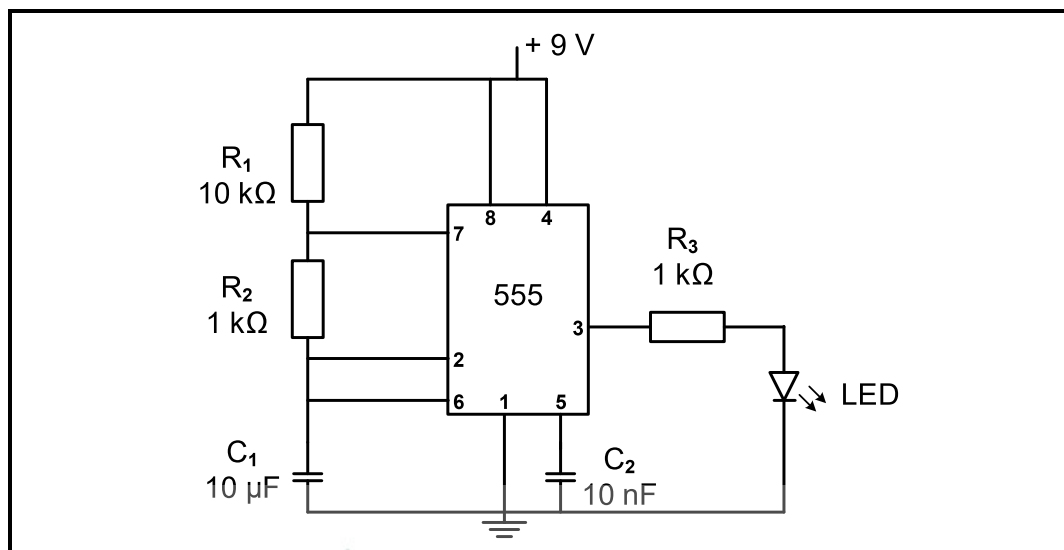

FIGURE 3.4: ASTABLE MULTIVIBRATOR
3.4 Refer to FIGURE 3.4 below and answer the questions that follow.